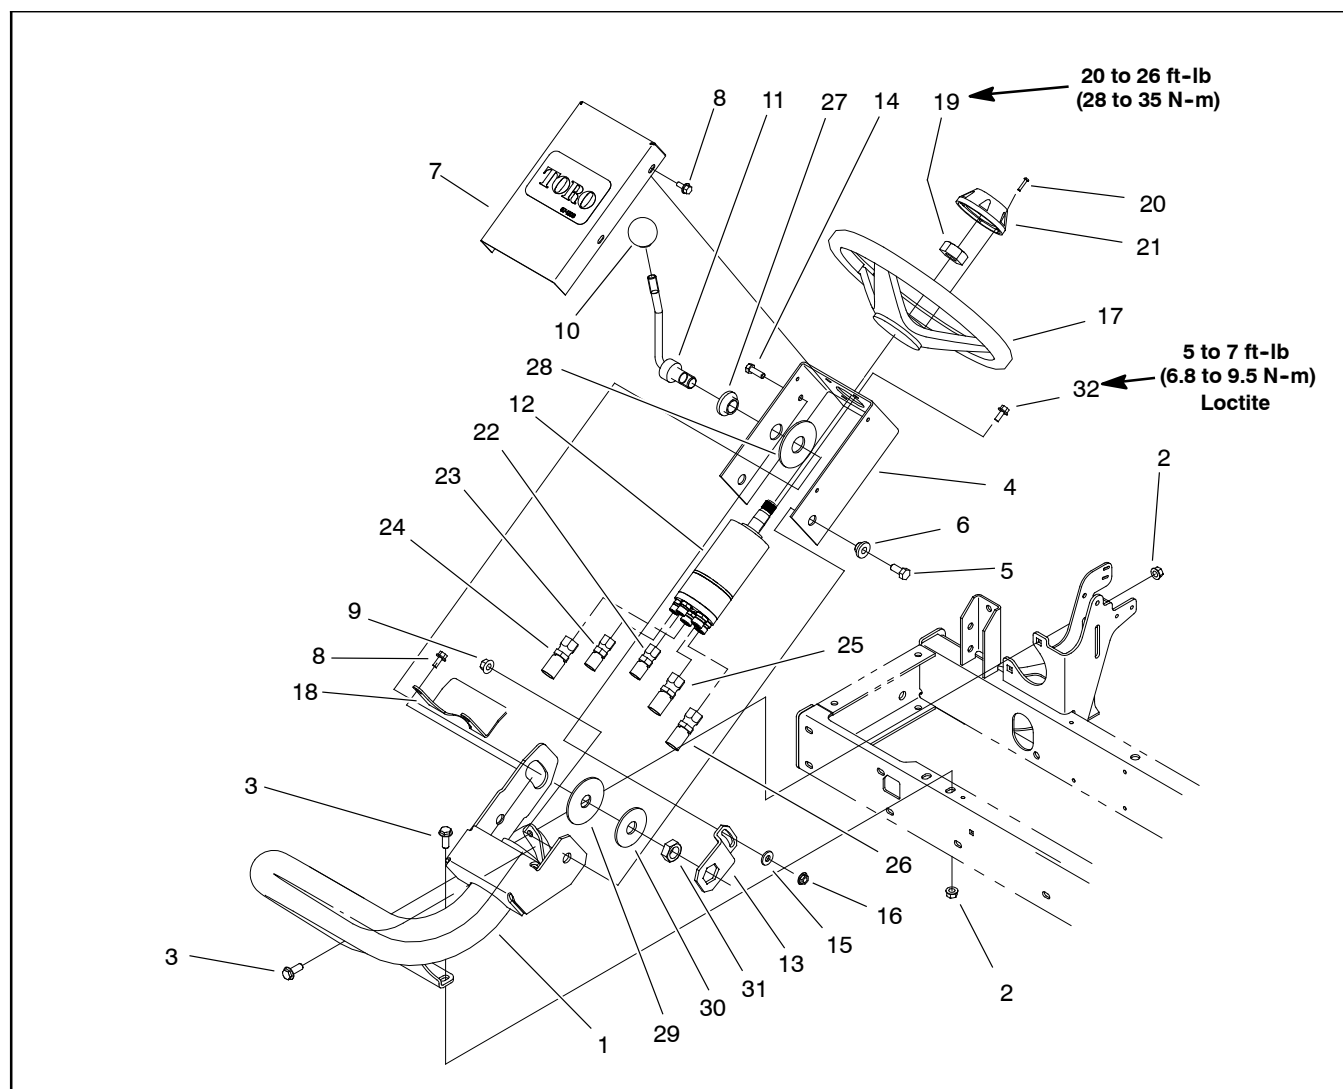

Figure 59
Removal (Fig. 59)
4. Remove steering control valve from the steering column using Figures 59 and 60 as guides.
Installation (Fig. 59)
1. Install steering control valve to the steering column using Figures 59 and 60 as guides. Use labels placed during the removal process to properly install hoses to control valve.